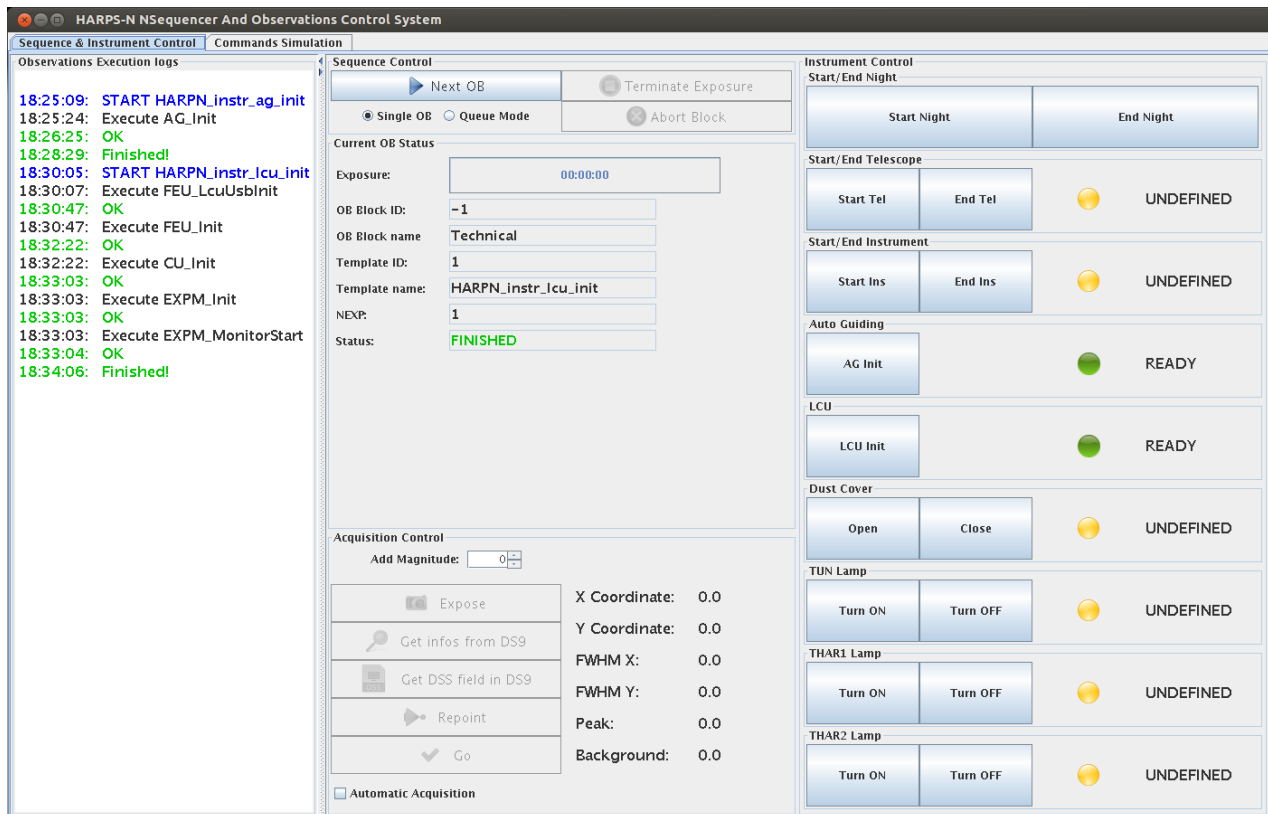

Figure 2 - The Sequencer GUI
The sequencer GUI (Figure 2) is divided into several sections:
**Note: When the sequencer is restarted after an error, the status buttons are not refreshed to the correct status (except the lamps buttons, which are refreshed after a while). The undefined (yellow) status of the other buttons is not real and can be ignored (if the user is sure that the instrument is initialized and ready to work) see Figure 2 .**